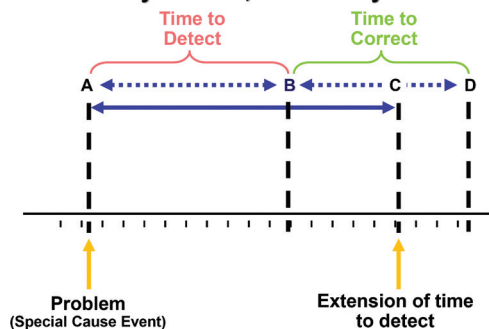
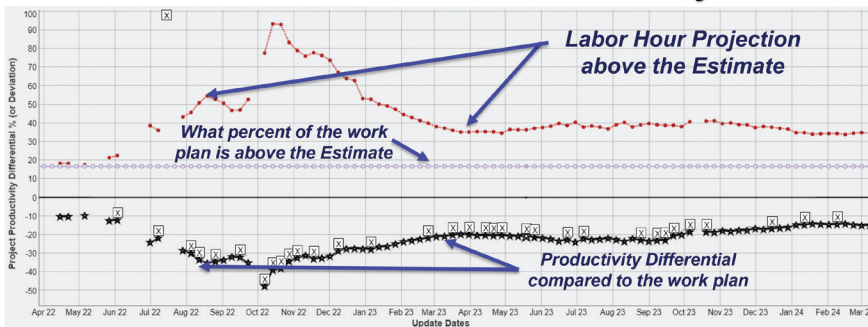

Figure 2
Figure 3
**Why** you break down the work in Step 2 above is demonstrated in Figure 2. The Components of Response Time (shortening Time to Detect and allowing more Time to Correct a Problem) is one the foundational principles that Agile Construction® is built upon. Working to learn quickly and uncover potential issues will get you on the path to success quickly (building your future!). While the figure mentions that the faster you see the problem, the faster you can fix it, this is also how the crystal ball predicts the future!
- The first flag is shown in Figure 3 with the purple line. The WBS is 16.7 percent higher than the estimate. The field team predicts it will take them 16.7 percent more hours than the bid planned. This links to Figure 2. We know right at the start that there could be a problem. In this case, the team thought maybe the remodel was making the field team thinks it's going to take longer, but they'll 'pick it up' in the new part and the parking lot.